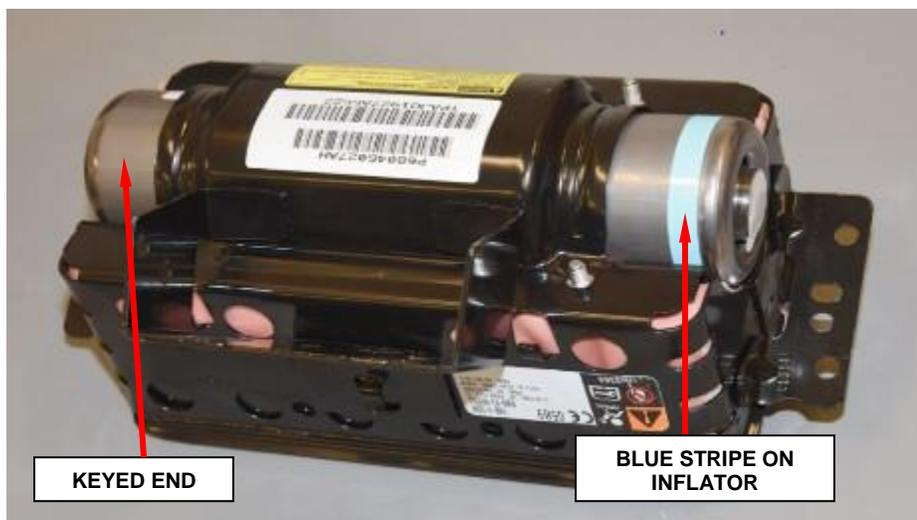

Figure 20 – Insert Inflator (Shown with Cushion Installed)
- j. Slide **new** inflator into housing. The keyed end is inserted first, therefore the blue stripe on the inflator will be located at the open end, as shown (Figure 20).